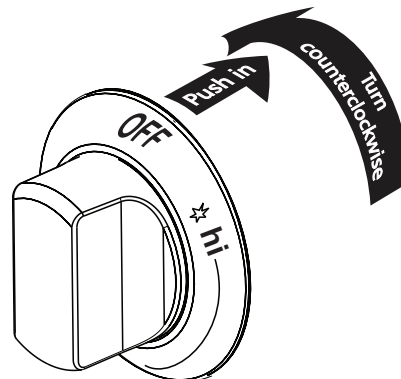

Figure 10: Correct way to set burners
2. Push the desired surface control knob in and turn counterclockwise out of the **OFF** position and rotate to the  position (Figure 10).